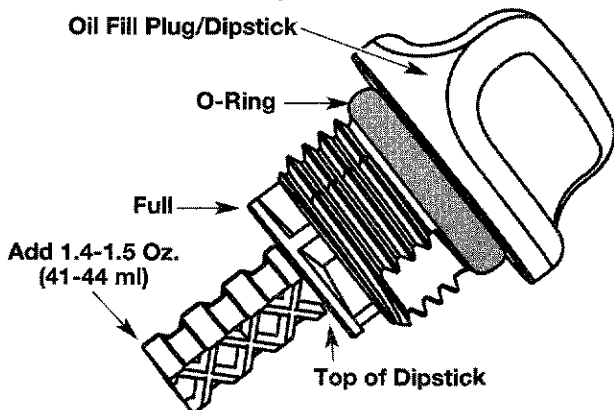
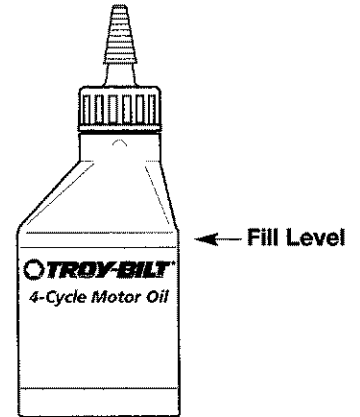

Fig. 40
Fig. 44
5. Remove the oil fill plug/dipstick and check oil level. Oil should be up to the top of the dipstick (Fig. 40).
NOTE: Use the bottle and spout saved from initial use to measure the correct amount. 3.4 ounce (100 ml) is approximately to the top of the label on the bottle (Fig. 44) Check the level with the dipstick. If the level is low, add a small amount of oil and recheck (Fig. 40). Do not overfill.